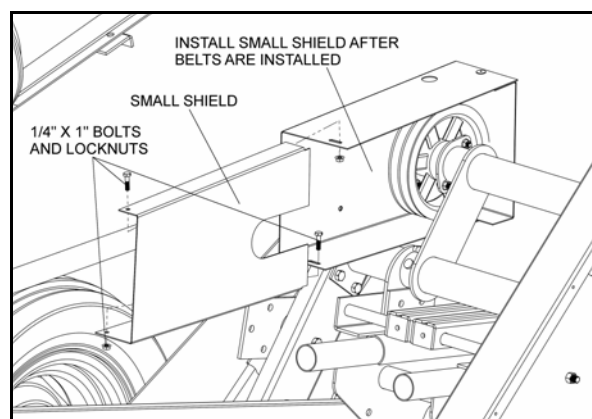

Figure 3.48
16. Install main drive belts that were supplied with auger. Slide small shield to cover main drive pulley and attach as shown in Figure 3.48 with two 1/4" x 1" bolts and nuts.